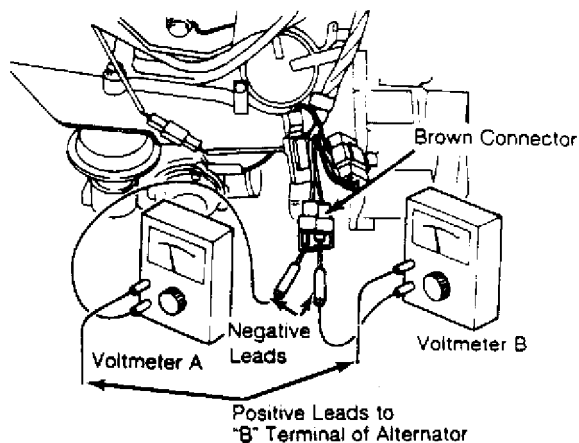
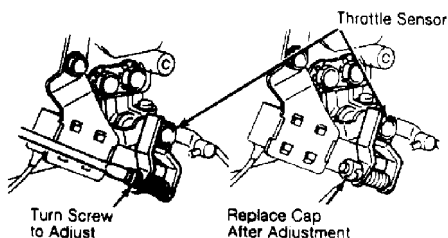

Fig. 7: Voltmeters Connected to Adjust Throttle Sensor
Fig. 8: Throttle Sensor Adjusting Screw Location
2) Using 2 voltmeters or 12-volt, 3-watt bulbs, connect negative lead of each voltmeter to each terminal in connector. Connect positive leads to "B" terminal of alternator. See Fig. 7.
4) To adjust sensor, remove cap from adjusting screw. Adjust timing of current flowing to voltmeter "A" in Fig. 7 by turning adjusting screw. Turning screw clockwise causes current to flow earlier and turning screw counterclockwise causes current to flow later. See Fig. 8.